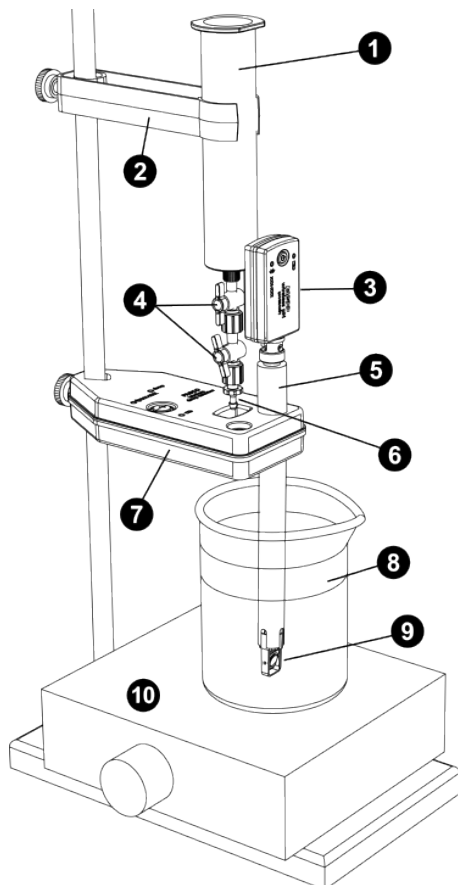

Figure 2. The titration setup, with the Wireless Drop Counter and syringe holder mounted to a support rod.
- Set up the equipment as shown in Figure 2, including consumables.